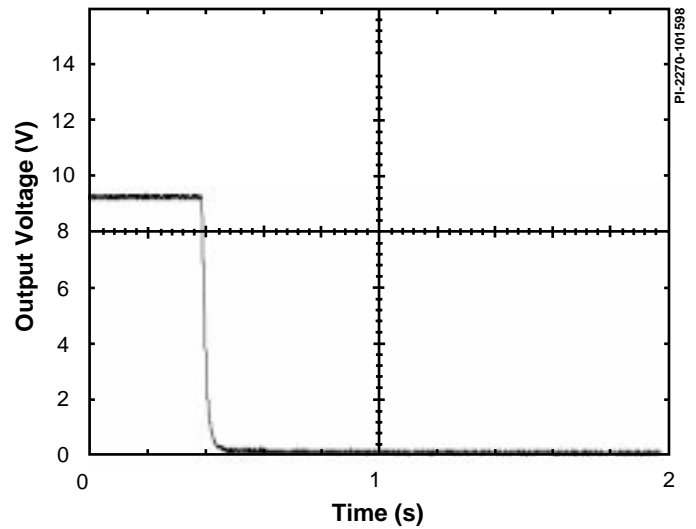

Figure 11. Output Turn Off.
**Power Supply Turn Off Sequence** - Figure 11 shows the decay of the 9 V output when the AC input is removed. The 9 V decays monotonically to zero after AC power is removed, with no spurious pulses.